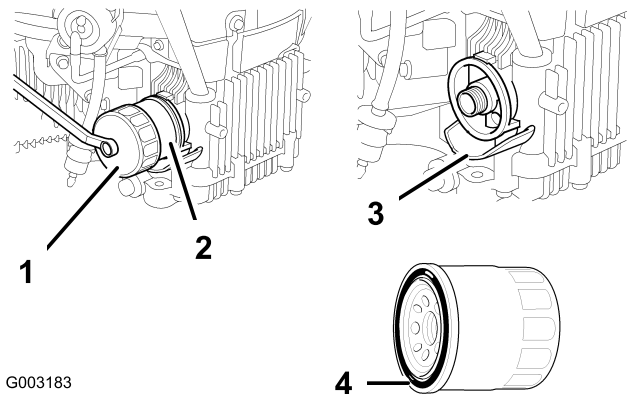

Figure 28
9. Change the oil filter, if necessary (Figure 28).
2. Remove the old filter using an oil filter wrench. Wipe the filter mounting base surface clean (Figure 28).
3. Apply a thin coat of clean oil to the rubber gasket on the replacement filter (Figure 28).
4. Install the replacement oil filter to the filter base by hand. Turn the oil filter clockwise until the rubber gasket contacts the filter adapter; then tighten the filter an additional 7/8 turn (Figure 28). Oil Filter torque: 15-17 lb (20-24 N·m)